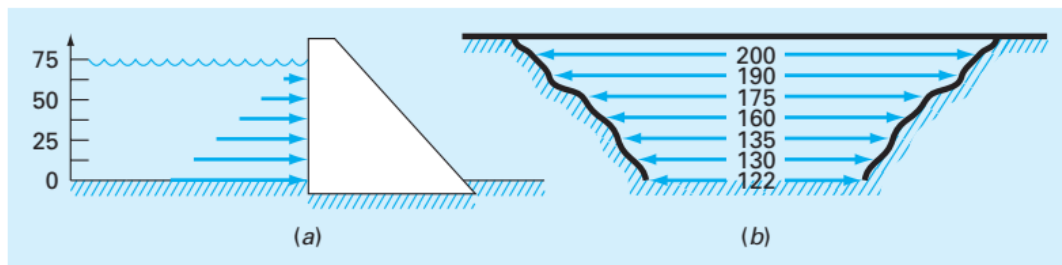

FIGURE P19.9
19.9 Water exerts pressure on the upstream face of a dam as shown in Fig. P19.9. The pressure can be characterized by